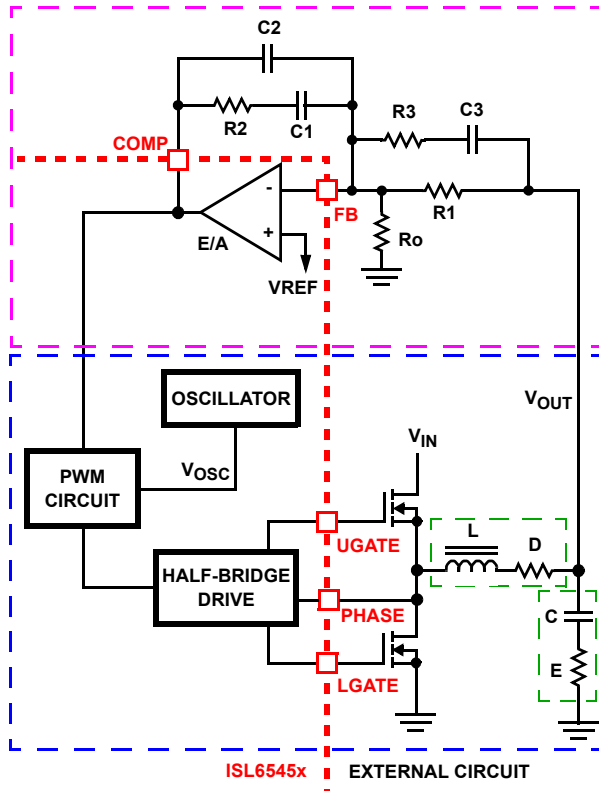

FIGURE 9. VOLTAGE-MODE BUCK CONVERTER COMPENSATION DESIGN
This section highlights the design consideration for a voltage-mode controller requiring external compensation. To address a broad range of applications, a type-3 feedback network is recommended, as shown in the top part of Figure 9.
Figure 9 also highlights the voltage-mode control loop for a synchronous-rectified buck converter, applicable to the ISL6545x circuit. The output voltage ( $V_{OUT}$ ) is regulated to the reference voltage,  $V_{REF}$ . The error amplifier output (COMP pin voltage) is compared with the oscillator (OSC) modified sawtooth wave to provide a pulse-width modulated wave with an amplitude of  $V_{IN}$  at the PHASE node. The PWM wave is smoothed by the output filter ( $L$  and  $C$ ). The output filter capacitor bank's equivalent series resistance is represented by the series resistor  $E$ .
The compensation network consists of the error amplifier (internal to the ISL6545x) and the external R1-R3, C1-C3 components. The goal of the compensation network is to provide a closed loop transfer function with high 0dB crossing frequency ( $F_0$ ; typically 0.1 to 0.3 of  $F_{SW}$ ) and adequate phase margin (better than  $45^\circ$ ). Phase margin is the difference between the closed loop phase at  $F_{0dB}$  and  $180^\circ$ . The equations that follow relate the compensation network's poles, zeros and gain to the components (R1, R2, R3, C1, C2, and C3) in Figure 9. Use the following guidelines for locating the poles and zeros of the compensation network:
1. Select a value for R1 (1k $\Omega$  to 5k $\Omega$ , typically). Calculate value for R2 for desired converter bandwidth ( $F_0$ ). If setting the output voltage via an offset resistor connected to the FB pin,  $R_o$  in Figure 9, the design procedure can be followed as presented.